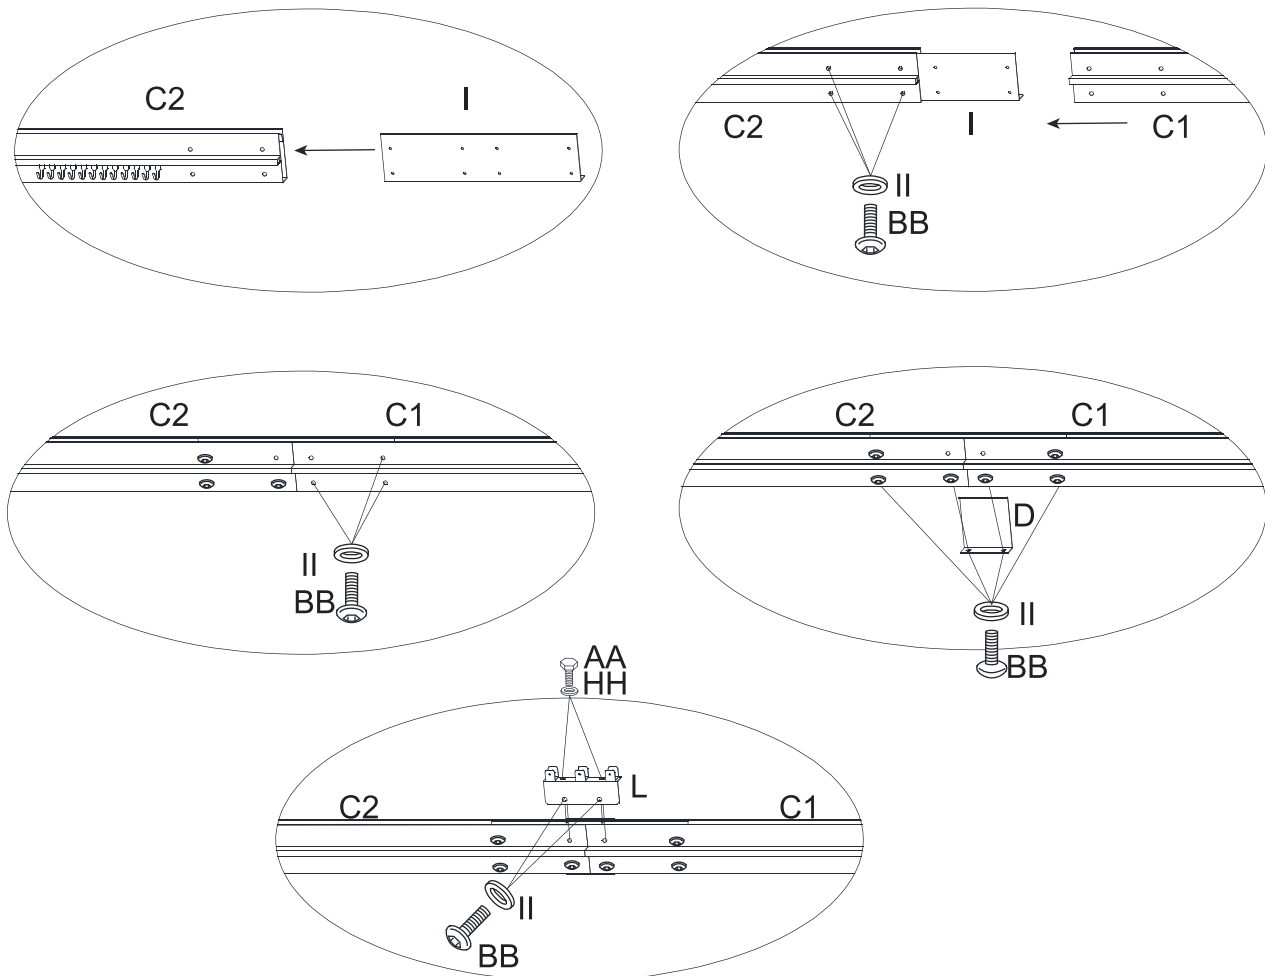

Figure 2.2
2.2. Connect the Short Left Lintel (C1) with the Short Right Lintel (C2) through the Lintel Connector - Large (I) by bolt (BB) and washer (II), then connect the Top Beam Guard (L) to the joint of the Lintels (C1/C2) by bolt (AA/BB) and washer (HH/II), put the Lintel Cover - Center (D) onto the joint of the two lintels with bolt (BB) and washer (II), pay attention to install the screws based on the orders shown in the illustration. Figure 2.2.